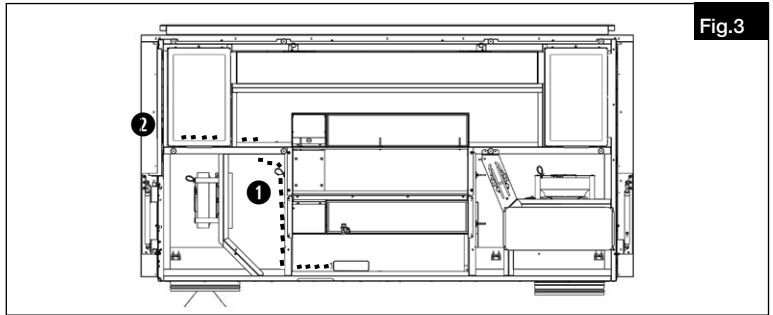

Fig.3
1. Place the power cable ❶ in the unit and lead it through the rubber grommet outwards to the terminal box ❷ (see Fig.3).